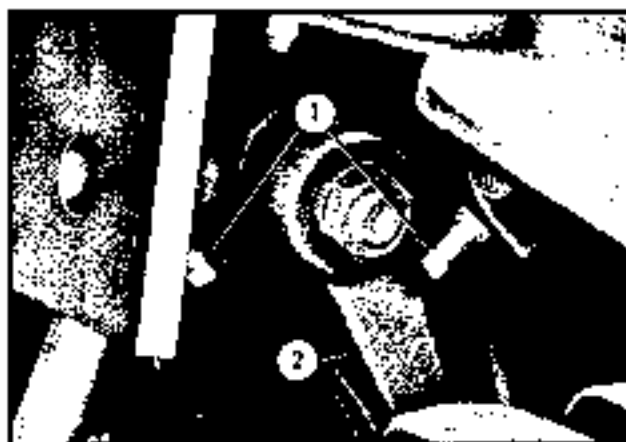

Fig. 1-21. Steering Arm and Stops
- c. Use just enough shim (16) to obtain a slight drag when steering shaft is turned, before cross shaft is installed.
- d. Install cross shaft at center of its travel, and install steering arm centered between stops. See figure 1-21.
- e. To adjust cross shaft end play, turn adjusting screw (21) in tight, then back off 1/4 turn.
- f. Adjust stop bolts (1, figure 1-21) to stop steering arm in each direction, before stops on steering axle make contact.